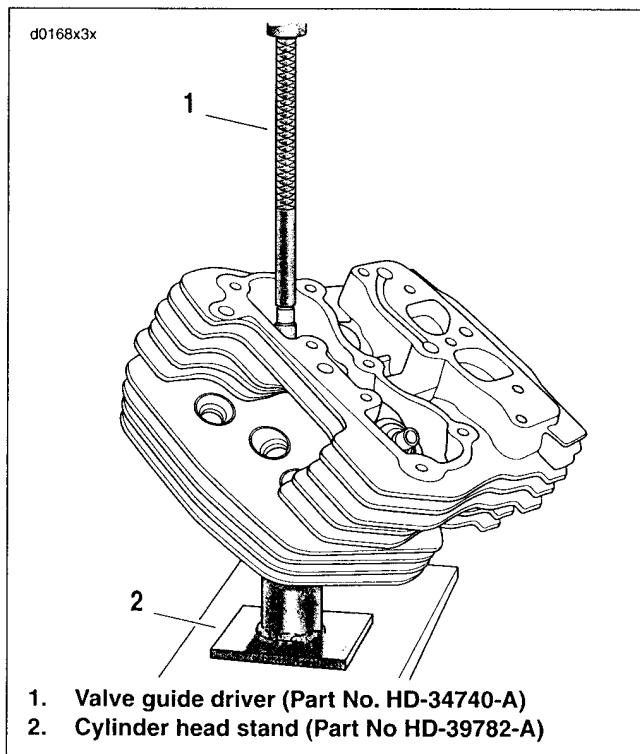

Figure 3-95. Remove Valve Guide
2. At top of the cylinder head, insert valve guide driver (1) into valve guide bore until stopped by shoulder.
3. See Figure 3-95. Center valve guide driver under ram of arbor press. Apply pressure until valve guide drops free of cylinder head. Discard valve guide.